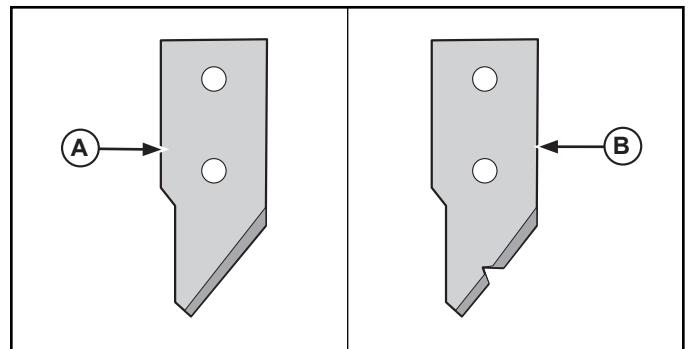

Figure 8. Blade Inspection.
3. Visually check the blade regularly to see that is in good condition (A). If the blade has a nick (B), discard and replace with a new blade. See Figure 8.